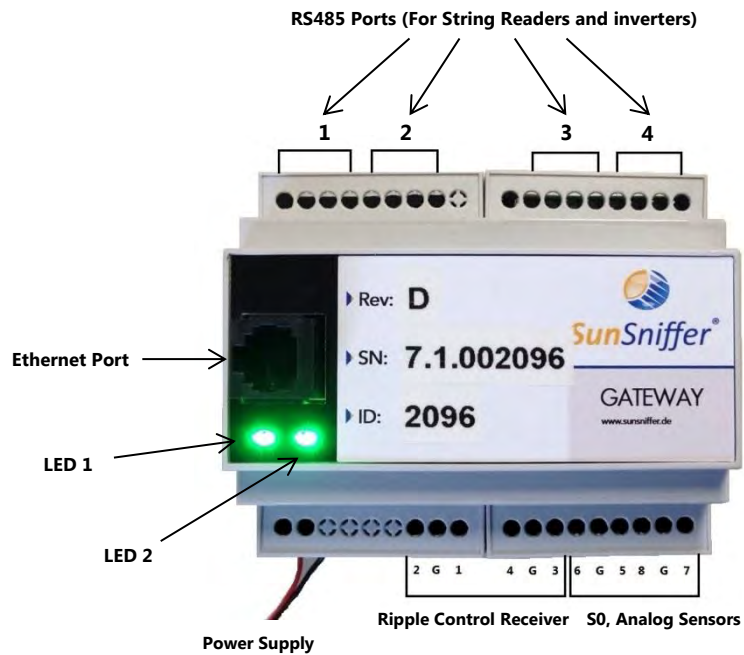

Figure 11: SunSniffer® Gateway with marked inputs and outputs.
1. Plug in the RS-485 data cables correctly as shown in Figure 11.